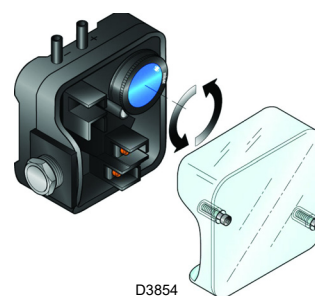

Fig. 30
- Adjust the air pressure switch (Fig. 30 on page 29) to the start of the scale.
Adjust the air pressure switch after performing all other burner adjustments with the air pressure switch set to the start of the scale (Fig. 30).